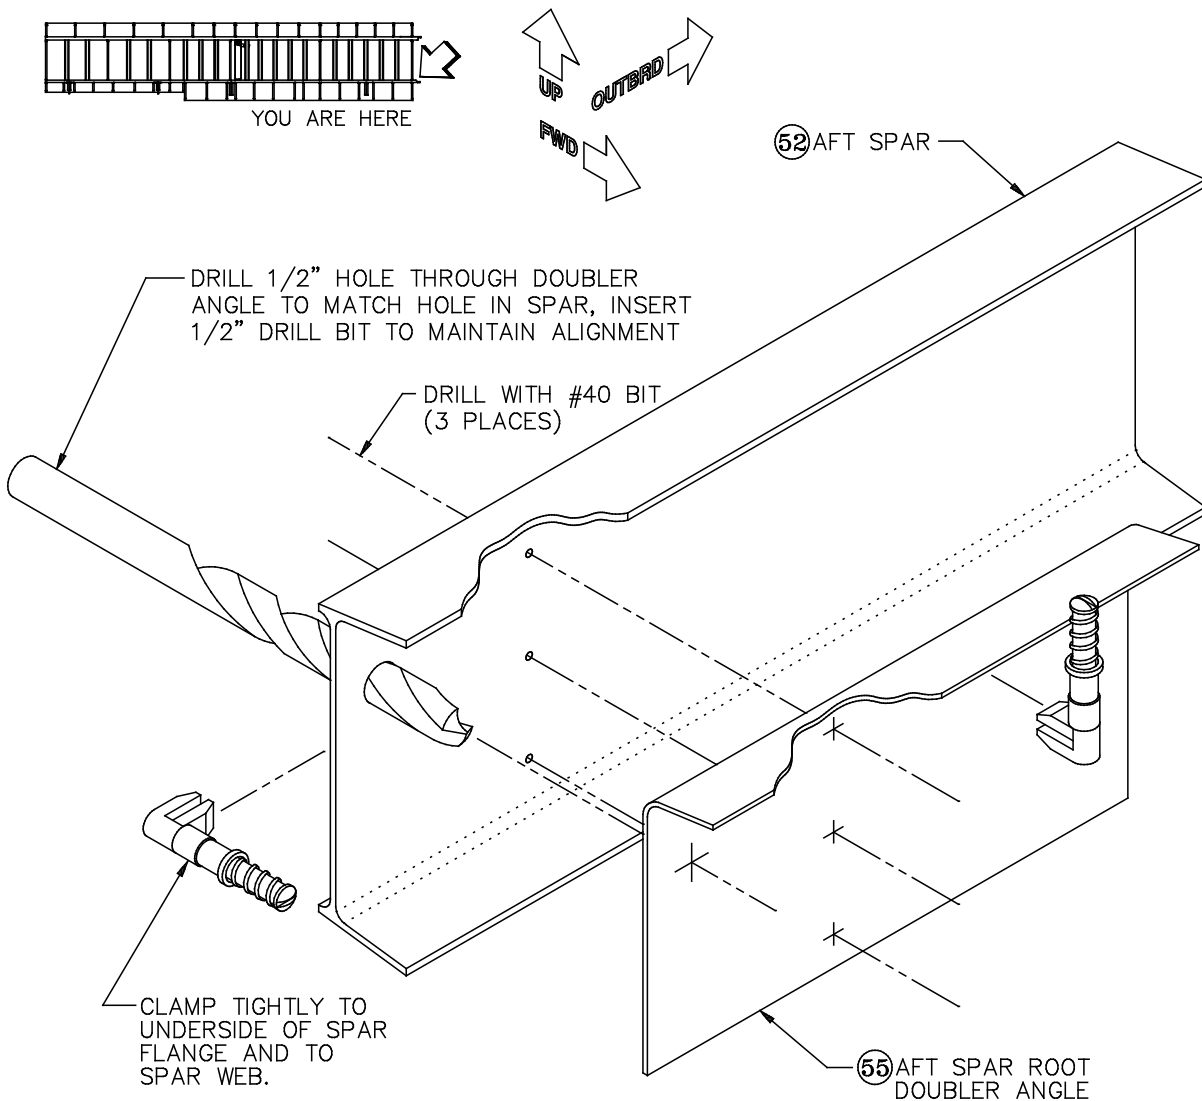

Figure 14: Aft Spar Root Doubler Angle
- A) Position the **aft spar root doubler angle** [55] against the **forward** side of the aft spar web, as shown in Figure 14. Use C-clamps or Cleco side-grip clamps to clamp the doubler angle tightly to the underside of the spar's upper flange and to the front face of the spar web.